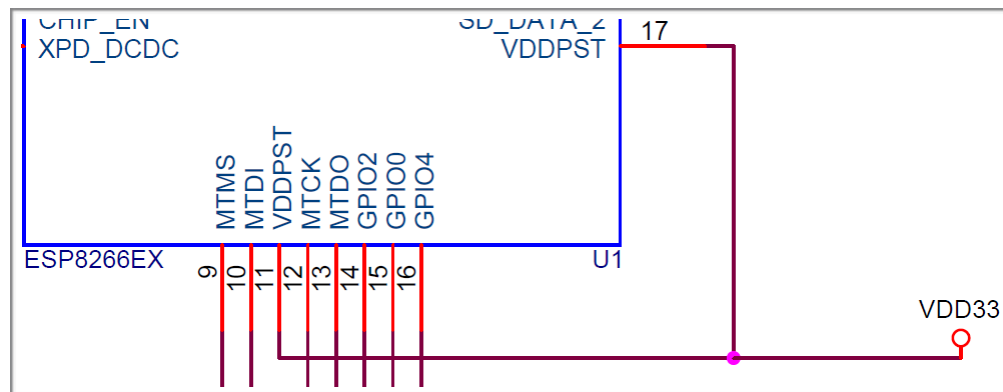

Figure 4 ESP8266EX Digital Power-supply Pins
- As shown in Fig.4, ESP8266EX is on the edge of PCB and far away from CPU and DDR(the noise source CPU+DDR). The increase in distance will decrease the interference distance and would reduce the coupling noise;